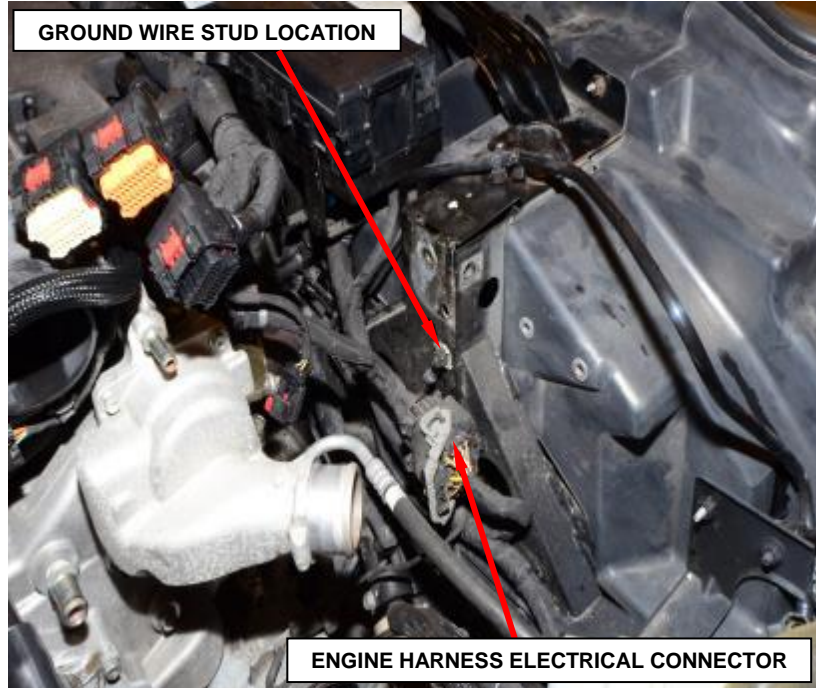

Figure 25 – Ground Wire
28. Remove the ground wire from the stud at the left side frame rail (Figure 25).
29. Disconnect the engine harness electrical connector (Figure 25).